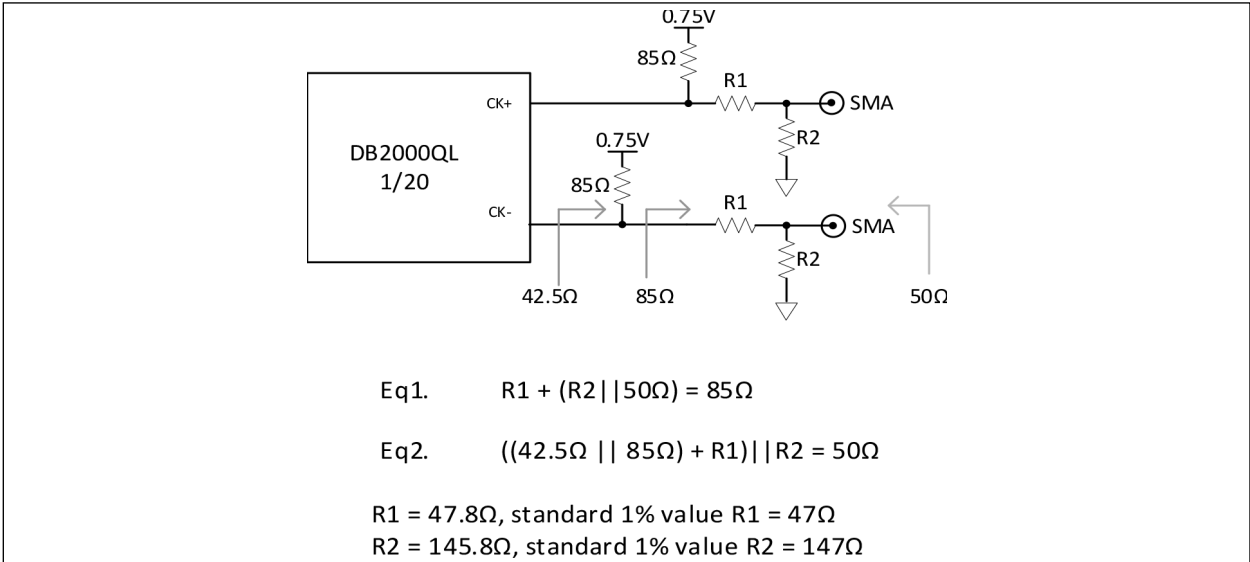

FIGURE 5-1: DC Test Load (as per DB2000QL).
- Note 1:** Measured into DC test load, see Figure 5-1.